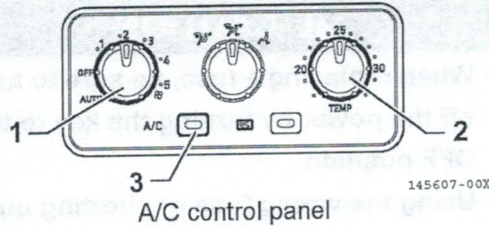

Fig. 2-106
1. Operate the blower air volume setting dial (Fig. 2-106, 1) to set the desired air volume or set it to the AUTO position.
2. Fully turn the temperature adjustment dial (Fig. 2-106, 2) counterclockwise.
3. Turn the air conditioner switch (Fig. 2-106, 3) to ON (the lamp turns on).
4. When the room gets cold, use the temperature adjustment dial (Fig. 2-106, 2) and blower air volume setting dial (Fig. 2-106, 1) to adjust to the desired room temperature.